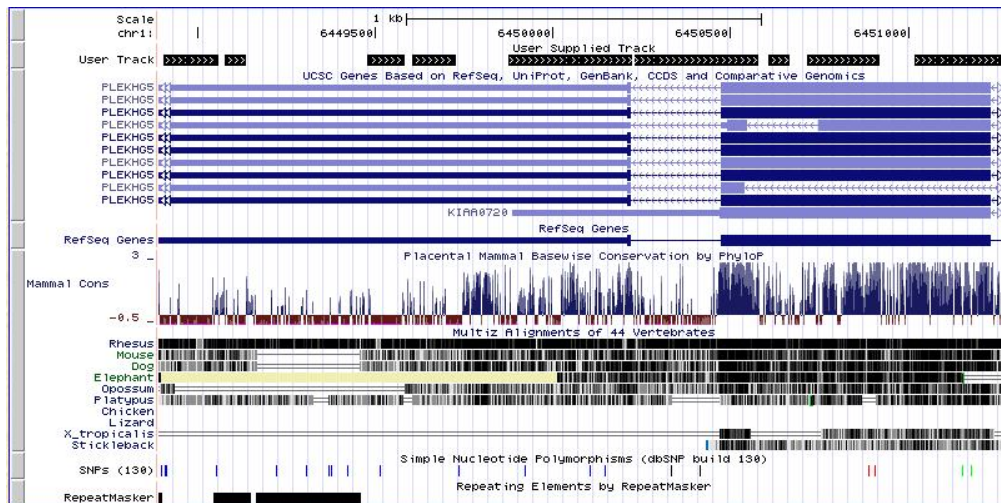

Figure 3: Example Microarray Design File Displayed in the UCSC Genome Browser
7. In the Manage Custom Tracks page, click the **go to genome browser** button. To view your regions see the 'User Track' section. Figure 3 shows an example microarray design displayed in the UCSC Genome browser.